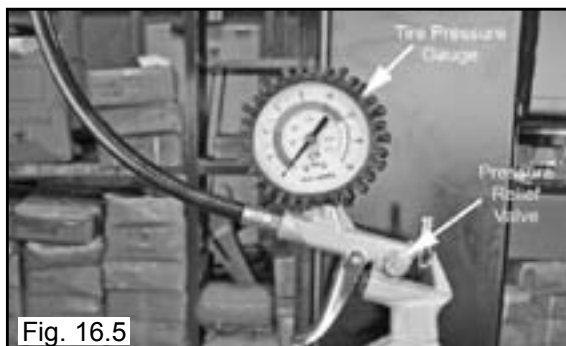

Fig. 16.5
2. Release air pressure from the tire by pressing the Manual Release Valve Button. NOTE: The Inflation Hose must be attached to the valve stem during this procedure. (See Fig. 16.5)